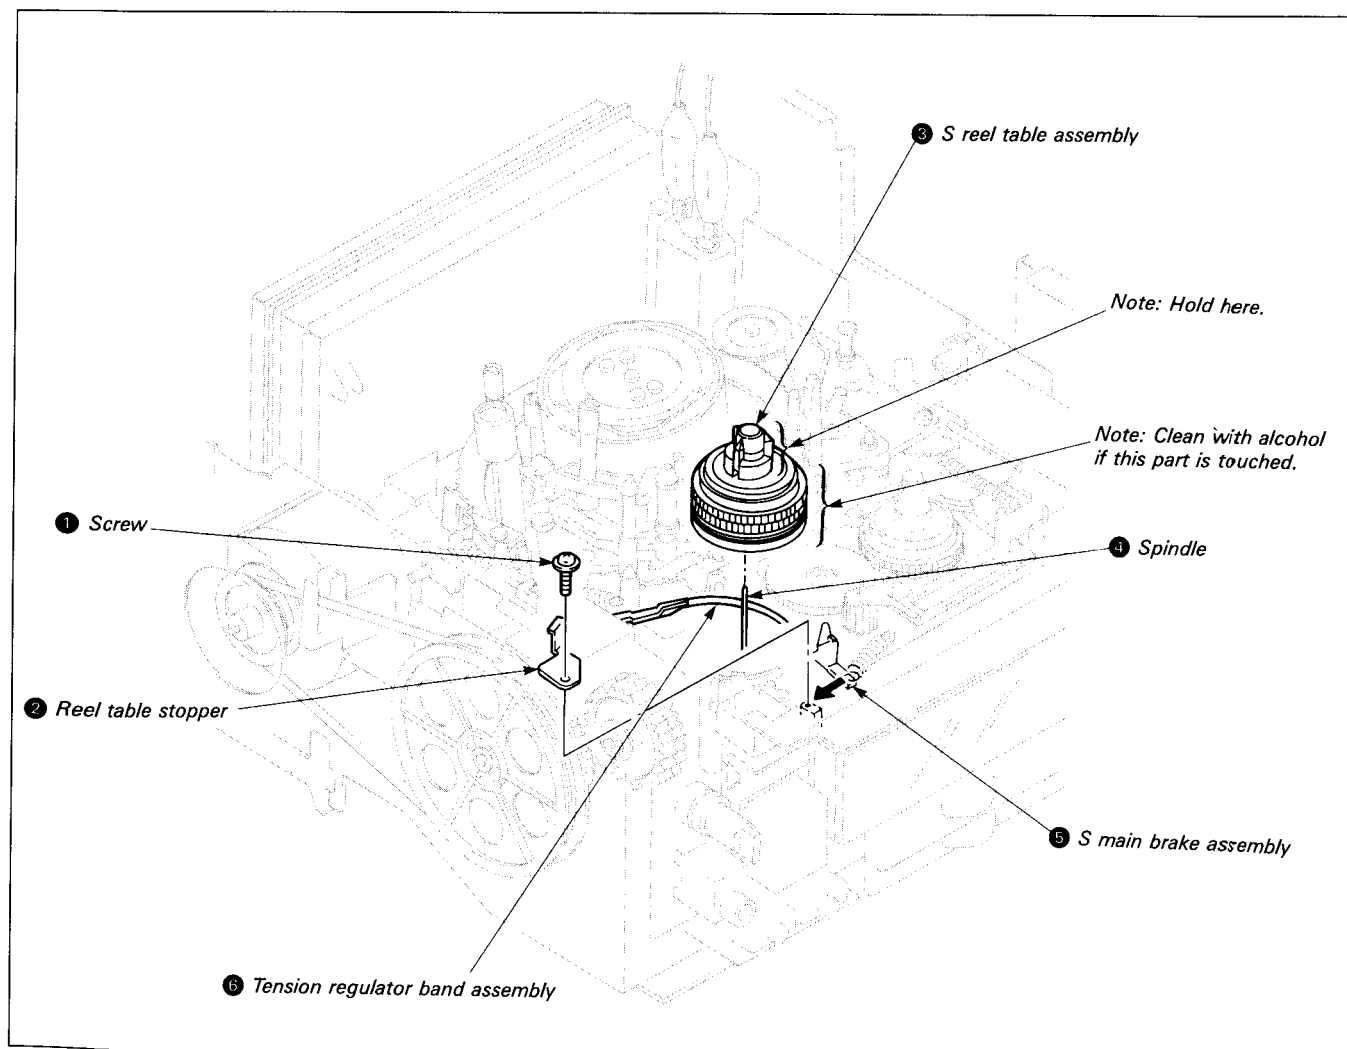

Fig. 7-6.
7-3-1. S Reel Table Assembly (See Fig. 7-6.)
- 1) Remove the S reel table assembly according to item 7-3-1, 1. Removal. (See Fig. 7-6.)
- 2) Remove the band arm hook ❶.
- 3) Remove hook ❷ and the tension regulator band assembly ❸.
- 1) Mount the tension regulator band assembly ❸. (Do not touch the band or change its shape.)
- 2) Fit on the band arm hook ❶.
- 3) Mount the S reel table assembly according to 7-3-1, 2. Mounting. (See Fig. 7-6.)